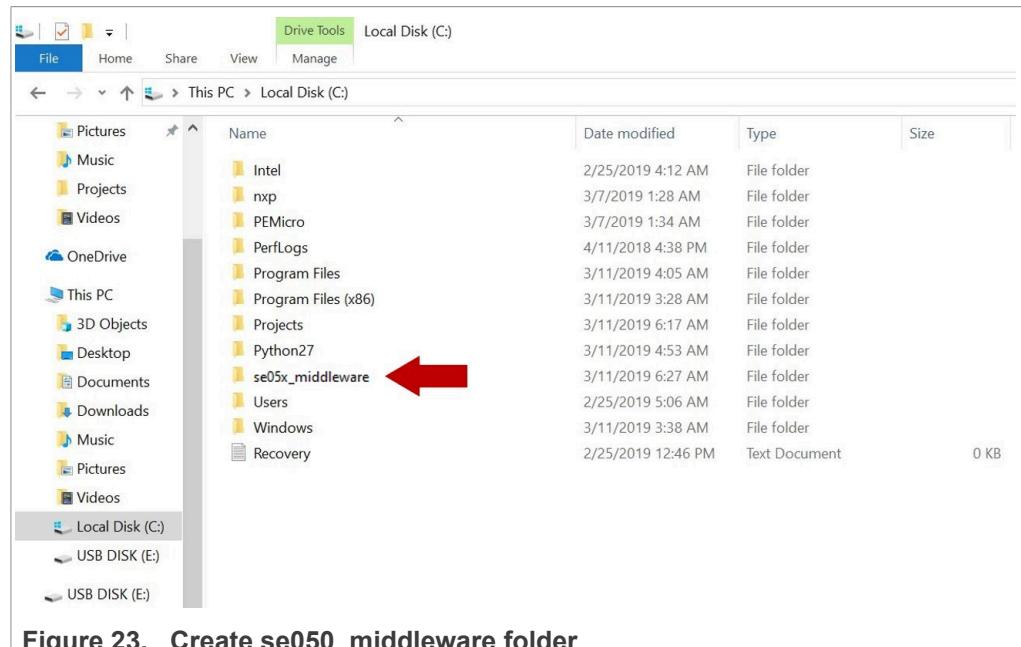

Figure 23. Create se050\_middleware folder
2. Create a folder called **se05x\_middleware** in C: directory as shown in Figure 23: